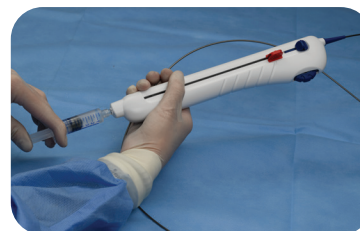

Figure 7
- Attach a 3cc syringe filled with a heparinized saline to the Luer Hub. Apply positive pressure to the syringe until fluid weeps from the guidewire exit port. While covering the guidewire exit port with thumb and forefinger, apply positive pressure until saline weeps from the catheter tip and the space between the tip and the Outer Sheath. (Figures 7, 8)